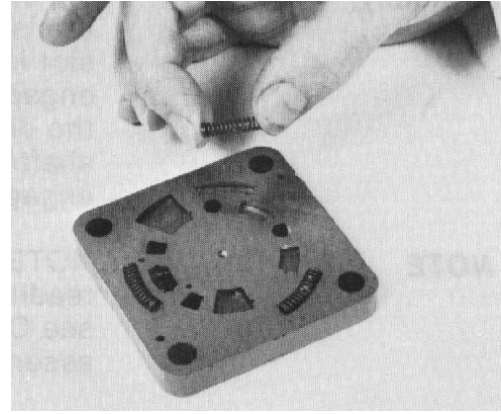

Figure 103
39. Put the port manifold (three plates bonded together), valve side up, in a clean surface. Install three 3/4 in. springs into the spring pockets (Fig. 103).